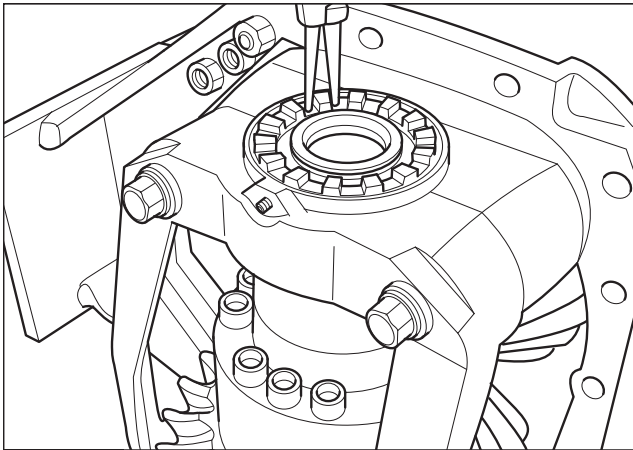

Fig. 2.2
2. Release differential lock snap ring. (Fig.2.2)